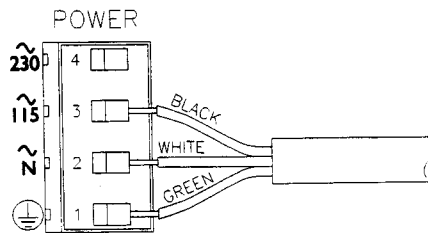

FIGURE 2-9 Connecting 115 Volt Single Phase to Analyzers with "A" or No Letter Prefix Serial Numbers
- *The "ground symbol" terminal 1 on TB3 (Figures 2-9, 2-11, or 2-13) for analyzers with "A" or no letter prefix serial numbers.*